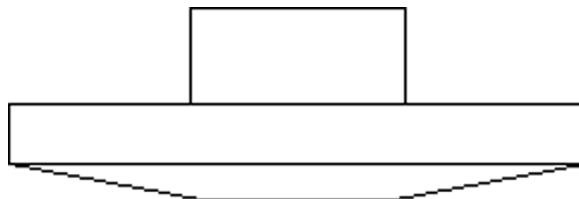

FIGURE 27.21 Flatshot results.
Step 6. Press Enter to accept the 0 angle of rotation (unless you want to rotate the view). You are done; the 3D model looks like what is shown in Fig. 27.21.